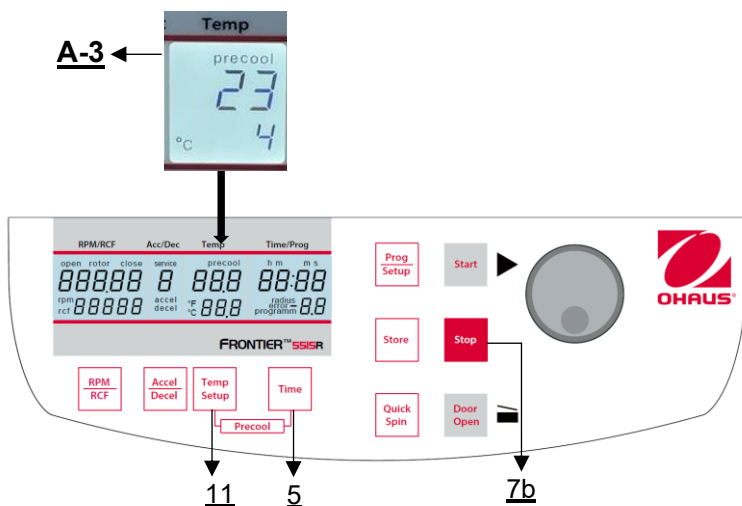

Figure 20
If the samples are temperature-sensitive it is useful to pre-cool the centrifuge, the rotor and eventually the buckets to the required working temperature. Therefore, insert the desired rotor and pre-set the respective temperature. By simultaneous pressing the keys **"Temp/Setup"** (11) and **"Time"** (5) you can start the run (**Figure 20**). While running, the unit chooses automatically a rotational speed that is equivalent to 30 or 50 % of the permitted rotational speed of the respective rotor (depending on the rotor). After the pre-set temperature is reached you can leave the pre-cooling run with the key **"Stop"**(7b)